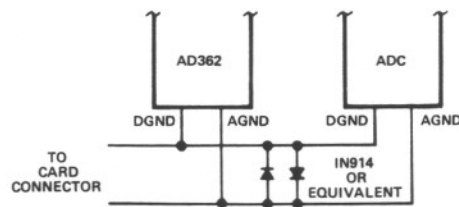

Figure 6. Ground-Fault Protection Diodes
**Grounding:** Analog and digital signal grounds should be kept separate where possible to prevent digital signals from flowing in the analog ground circuit and inducing spurious analog signal noise. Analog Ground (pin 17) and Digital Ground (pin 2) are not connected internally; these pins must be connected externally for the system to operate properly. Preferably, this connection is made at only one point, as close to the AD362 as possible. The case is connected internally to Digital Ground to provide good electrostatic shielding. If the grounds are not tied common on the same card with the AD362, the digital and analog grounds should be connected locally with back-to-back general-purpose diodes as shown in Figure 6. This will protect the AD362 from possible damage caused by voltages in excess of  $\pm 1$  volt between the ground systems which could occur if the key grounding card should be removed from the overall system. The device will operate properly with as much as  $\pm 200\text{mV}$  between grounds, however this difference will be reflected directly as an input offset voltage.